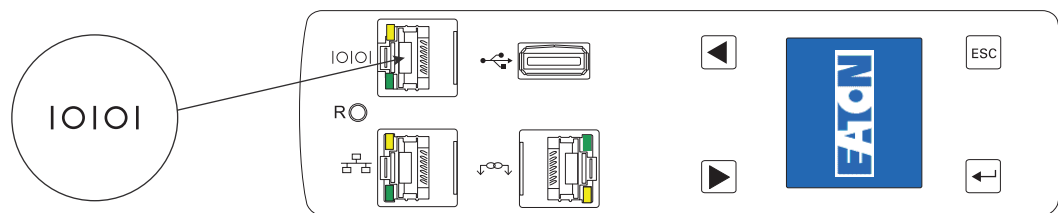

Figure 27. Connecting to a Computer Serial Port
3. Connect the RJ-45 end of the cable to the RS-232 connector on the front panel of your ePDU model (see Figure 27). Connect the DB9 end of the cable to the serial connector on the computer.